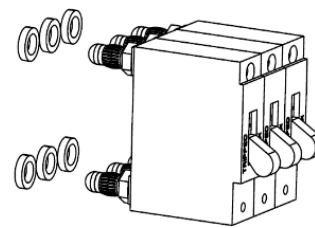

Figure 36B Breaker
3. To allow the breaker alarm connections to seat properly, first remove the sleeve collars from each post on both sides of the bullet breaker. See Note and Figure 36B.